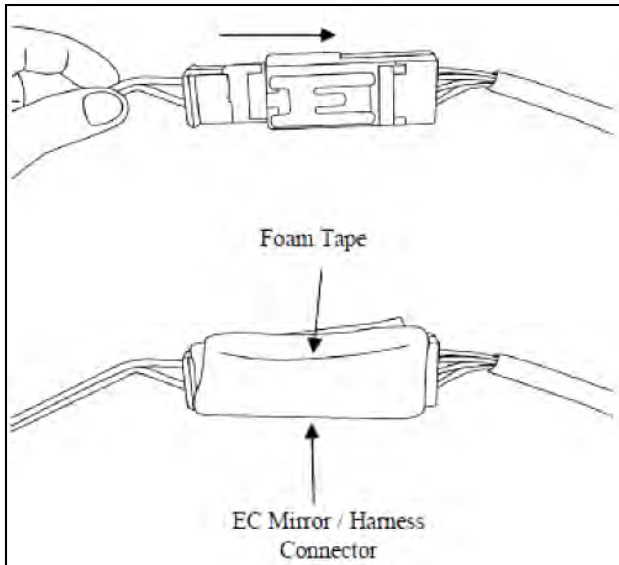

Figure 14
14. Connect the mirror harness to the mirror main power harness. Make sure both connectors are fully engaged. Wrap foam tape around connectors. See Figure 14.